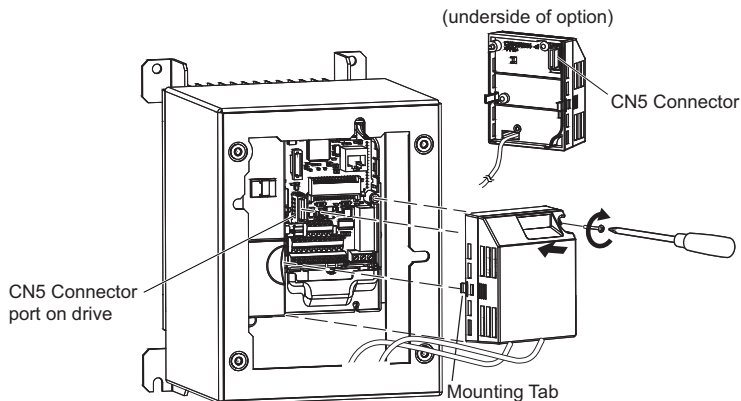

Figure 27 Attach Option to IP66/UL Type 4X
- 27.** For IP66/UL Type 4X enclosure models, attach the option to the drive by aligning the two mounting tabs on left and right side of the option with slots on the drive. Plug-in the CN5 connector on the back of the option into the CN5 connector on the drive. Tighten the screw in the front of the option (see Figure 27).